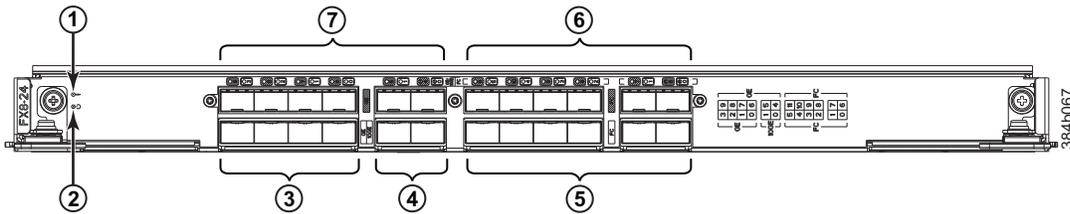

Figure 61. FX8-24 extension blade
- Figure 61 on page 147 shows an FX8-24 extension blade